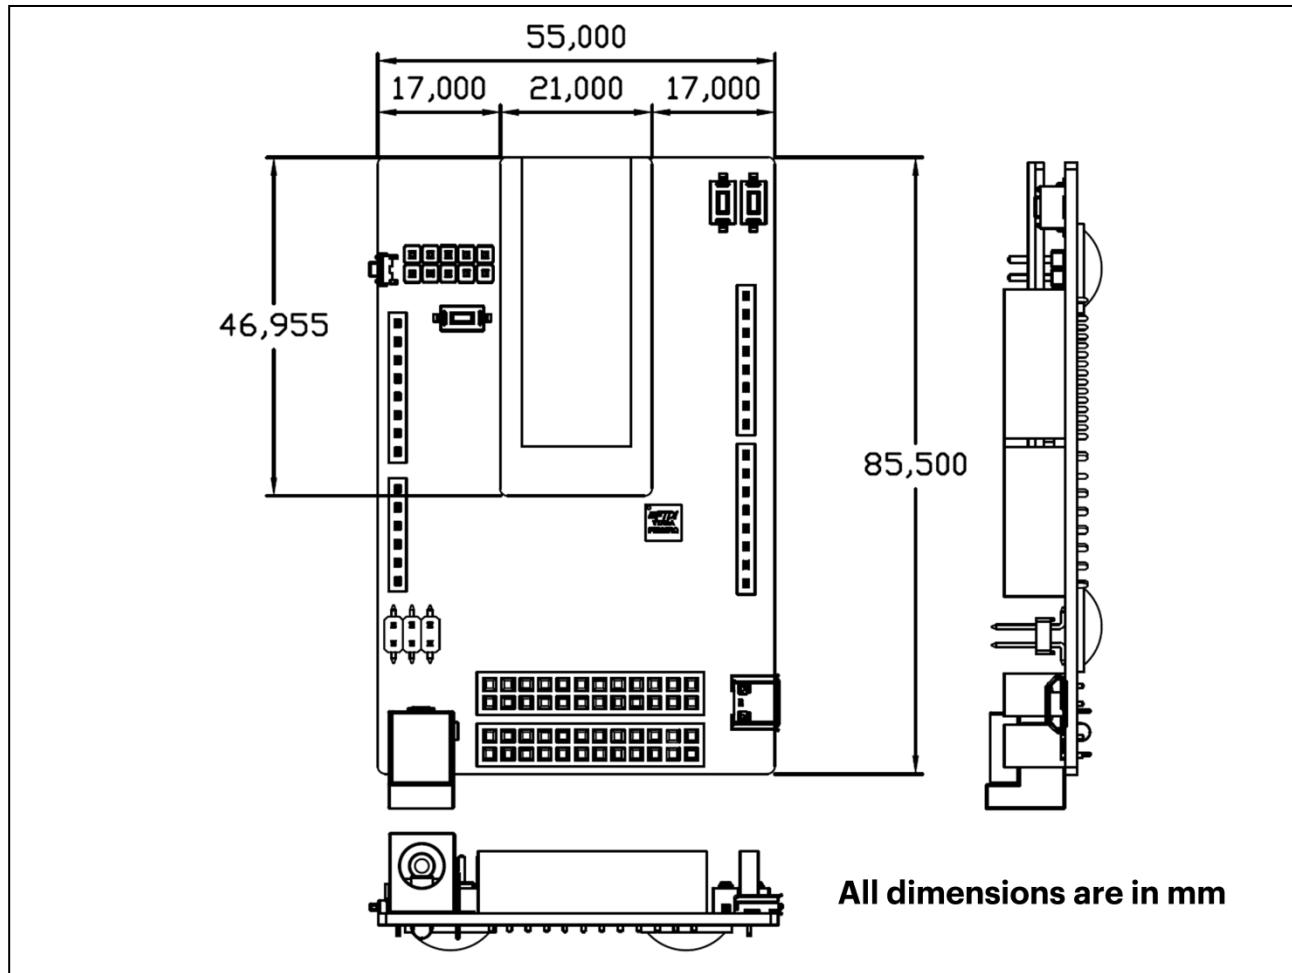

Figure 15. Mechanical Dimensions ARTIK 053 Starter Kit
*Figure 15* shows the mechanical dimensions of the ARTIK 053 Starter Kit Board.